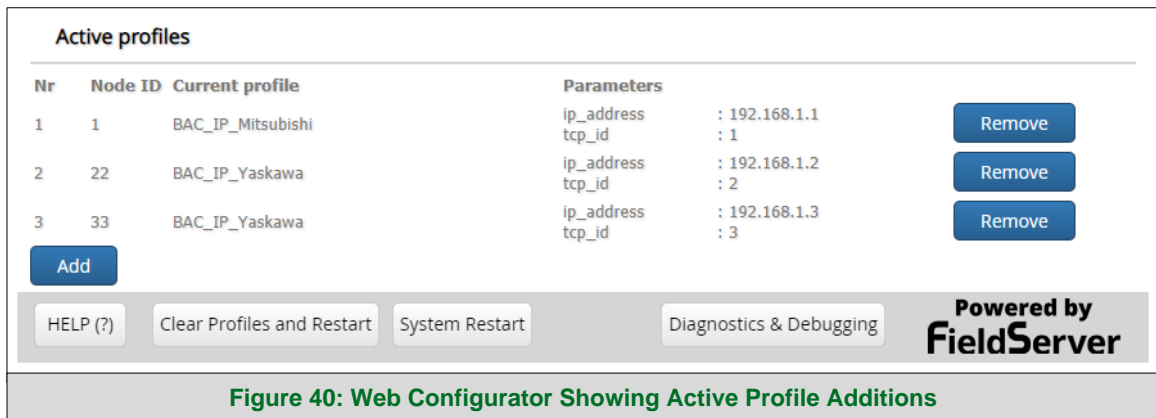

Figure 40: Web Configurator Showing Active Profile Additions
- Completed additions are listed under "Active profiles" as shown in **Figure 40**.